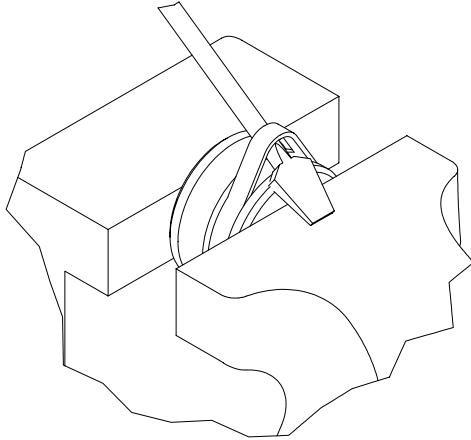

Figure 5-40, Seal Removal
7. Carefully pry up on the piston seals using a blunt tip screwdriver being careful not to scratch the seal grooves. Cut the seals to remove them from the piston. (Figure 5-40)